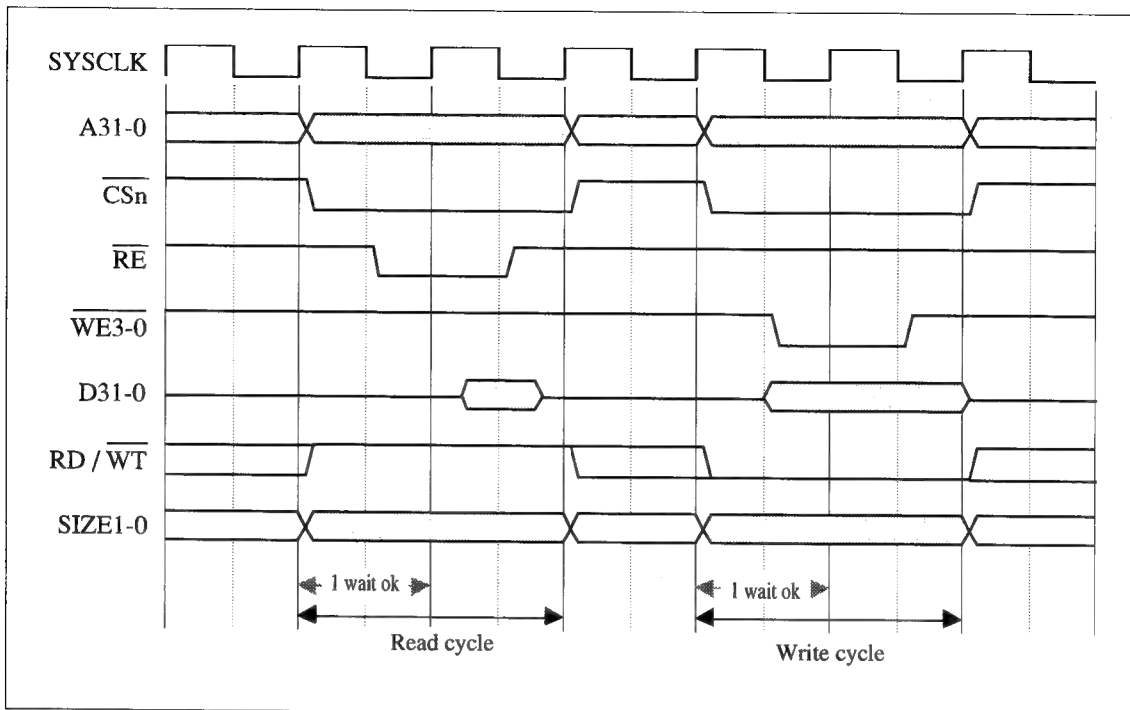
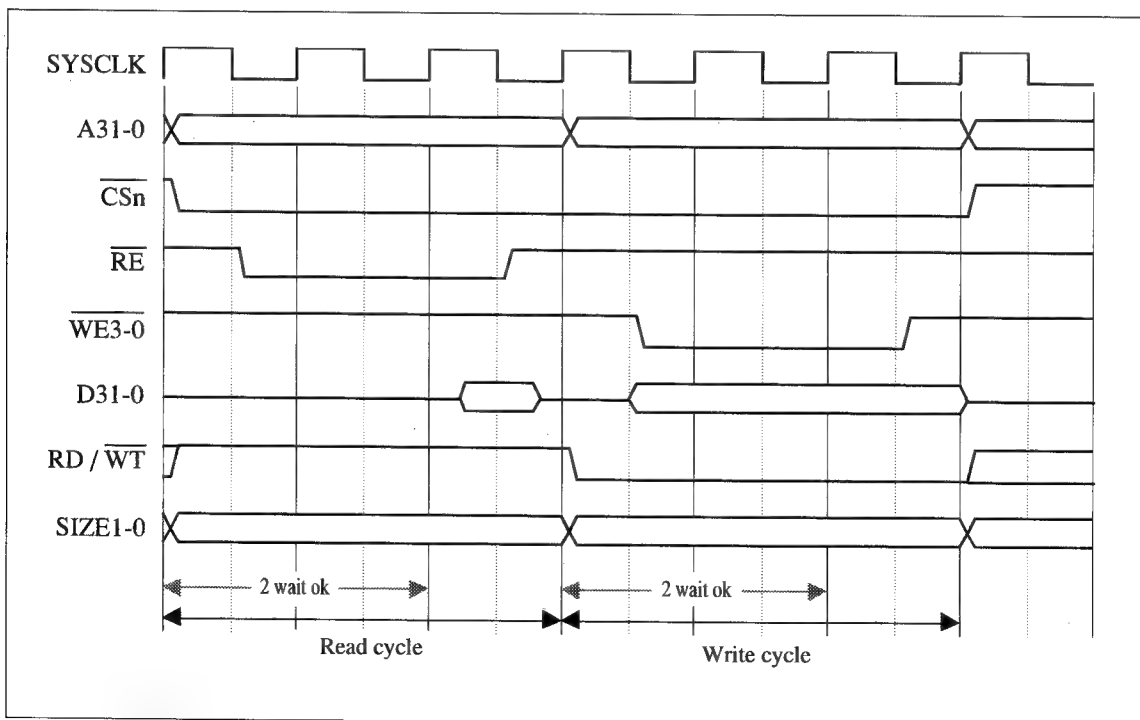

Fig. 5-8-4 Timing for Access in 32-bit Bus Synchronous Mode with Fixed Wait State Insertion (One Wait OK)
Fig. 5-8-5 Timing for Access in 32-bit Bus Synchronous Mode with Fixed Wait State Insertion (Two Wait OK)
Figs. 5-8-4 and 5-8-5 are timing charts for accesses with a 32-bit bus in synchronous mode with fixed wait state insertion. In Fig. 5-8-4, one wait state is inserted, while in Fig. 5-8-5, two wait states are inserted. During a read, the read enable signal (RE) is asserted 1/2 of a SYSCLK cycle after the start of the bus cycle, and is negated 1/2 of a SYSCLK cycle before the end of the bus cycle. During a write, the write enable signals (WE3 to 0: corresponding to the byte being written) are asserted 1/2 of a SYSCLK cycle after the start of the bus cycle and are negated 1/2 of a SYSCLK cycle before the end of the bus cycle. Therefore, the minimum number of wait states in the bus cycle is one.